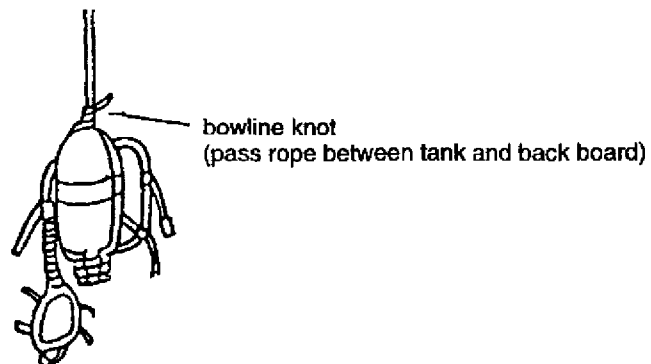

Fig. 7-31
- b. Tie the breathing apparatus that the entering rescuer will wear with the end of one rope using the air tank tying technique. (Fig. 7-31)